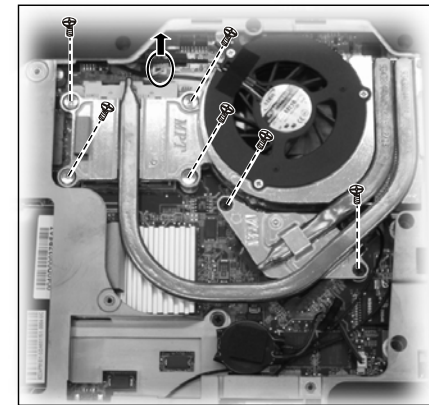

Figure 2-6 Free the heatsink
3. Remove the six spring screws that secure the heatsink upon the CPU and disconnect the fan's power cord from system board. (Figure 2-6)